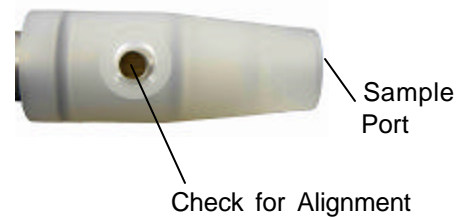

Figure 12
6. Align purge port with hole in shell tube (Refer to Figure 12).